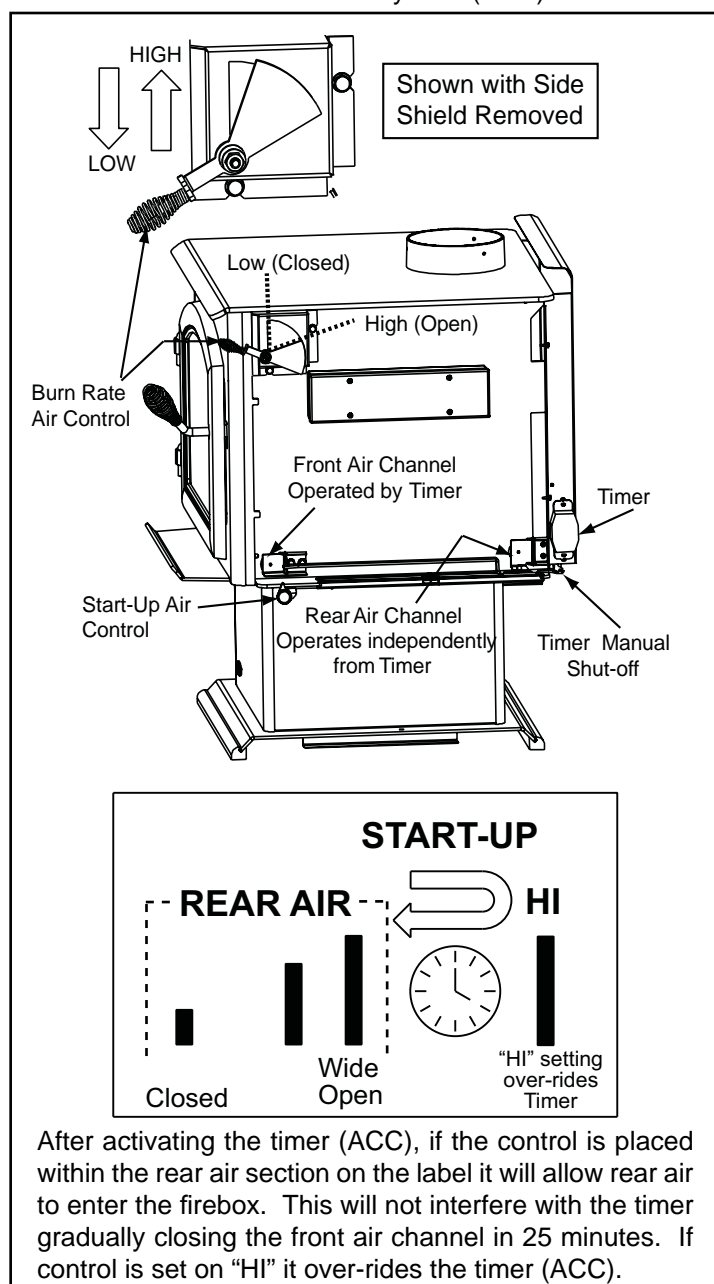

Figure 22.1
This air supply enters at the upper front of the firebox, near the top of the glass door. This preheated air supplies the necessary fresh oxygen to mix with the unburned gases, helping to create second, third and fourth combustions. This air is regulated by the Burn Rate Air Control. There are four settings High, Medium-High, Medium-Low and Low. When the control is raised all the way up it is on the High setting and when pushed all the way down it is on the Low setting. **Figure 22.1.**
1. This appliance has a timer system (ACC) that operates the stove at its maximum efficiency removing any guess work for the homeowner. Follow the instructions below for each burn rate for the Start-Up Air Control and Burn Rate Air Control. **Figure 22.1.**